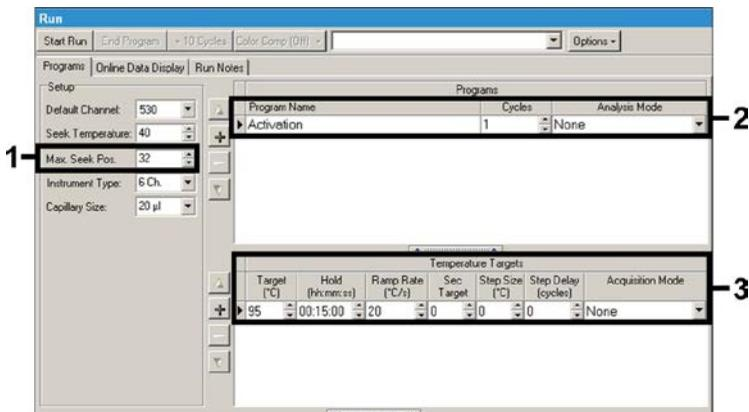

Fig. 6: Initial Activation of the Hot Start Enzyme.
Subsequently, for the detection of *Borrelia* DNA, create a temperature profile on your *LightCycler 2.0* Instrument according to the following three steps (see Fig. 6 - 8).
- A. Initial Activation of the Hot Start Enzyme Fig. 6
Make sure that you first enter the number of capillaries prepared for this PCR run (*Max. Seek Pos.*, see Fig. 6).